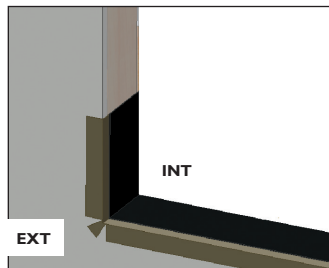

FIG. 7
E) Flashing tape must cover the entire sill. If needed, apply an additional flashing piece over the first one (start from the exterior and work towards the interior). Maintain a minimum 1" overlap. (Fig. 7)